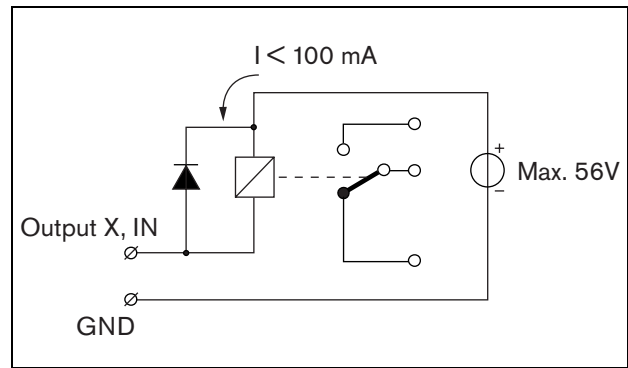

figure 18.11: Externally powered relay
- Externally powered relay. See figure 18.11 for a connection diagram.